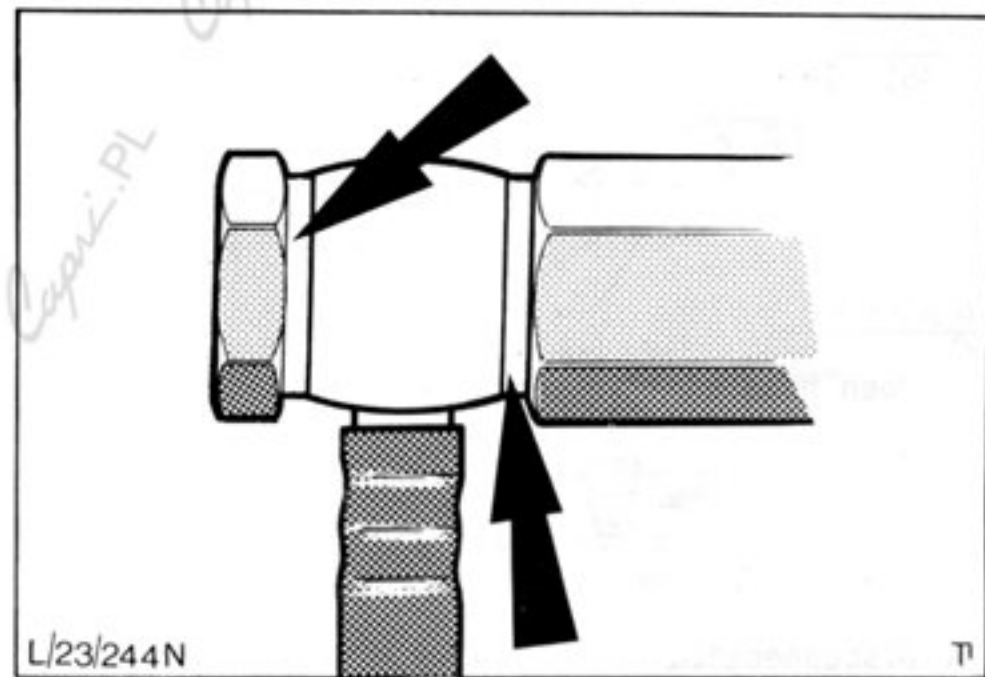

Fig.87. Start valve union connection with copper washers in position.
9. Reconnect fuel supply pipe, Fig.87.